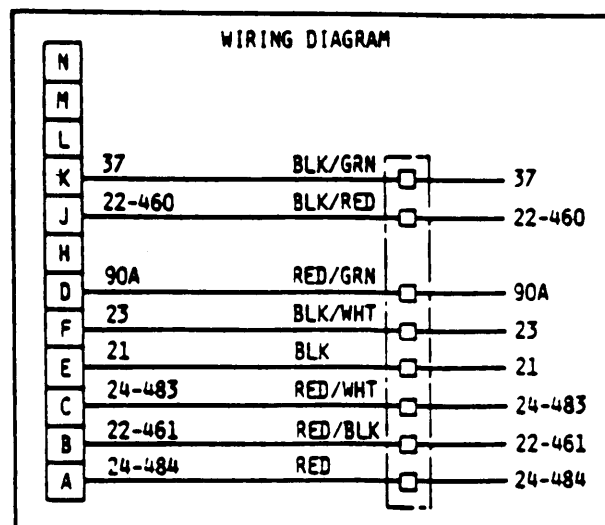

Figure 2-7. Trailer Cable, Wiring Diagram (ARMY)
- (1) Inspect connector for loose or damaged pins. Replace if defective.
- (2) Inspect connector covers for damage. Replace connector if damaged.
- (3) Inspect cable for cracks, cuts, abrasions and loose ends. Replace if damaged.
- (4) Check individual wires for loose solder connections at terminal lugs and connectors. Repair solder connections and replace terminal lugs and connectors if damaged.
d. Testing. Using wiring diagram in (figure 2-7), check individual wires for continuity, If continuity is not indicated, check solder connections and replace all damaged wires.